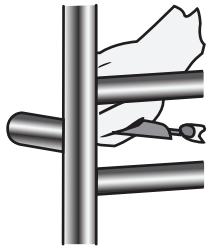

Fig. 3
Step 3: Marking holes for wall mount posts (Fig. 3)
- Take towel warmer with four (4) Metal Wall Legs mounted, as per Step 2.